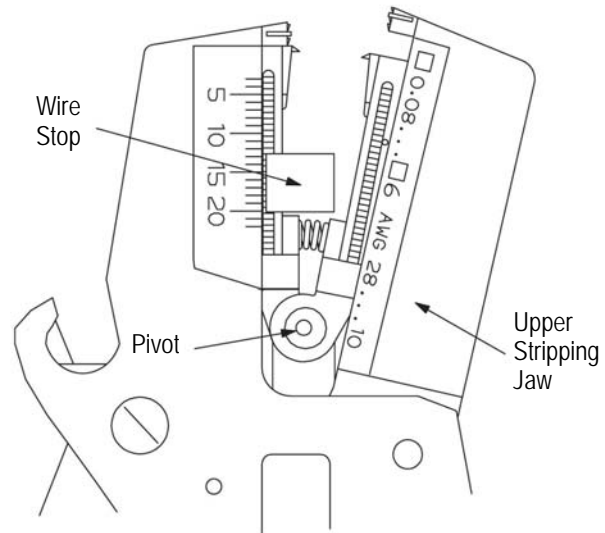

Figure 4
5.1. Jaw Removal (Figure 4 and Figure 5)
1. Open the jaws and position the tool as shown in Figure 4.